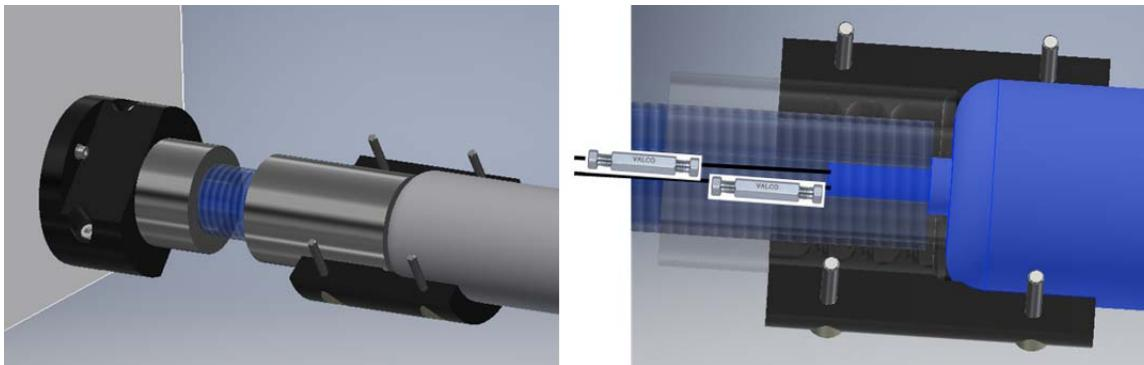

Figure D-21: Remove the Wyatt adapter and slide both the chromatography fittings and Wyatt heated-line into the Tosoh heated-line.
9. Remove the black adapter from the Wyatt heated-line. Slide the Valco unions and the Wyatt heated-line adapter as far into the Tosoh heated-line as possible, as shown in Figure D-21. The foam tube should remain in place at the edge of the Tosoh heated-line.